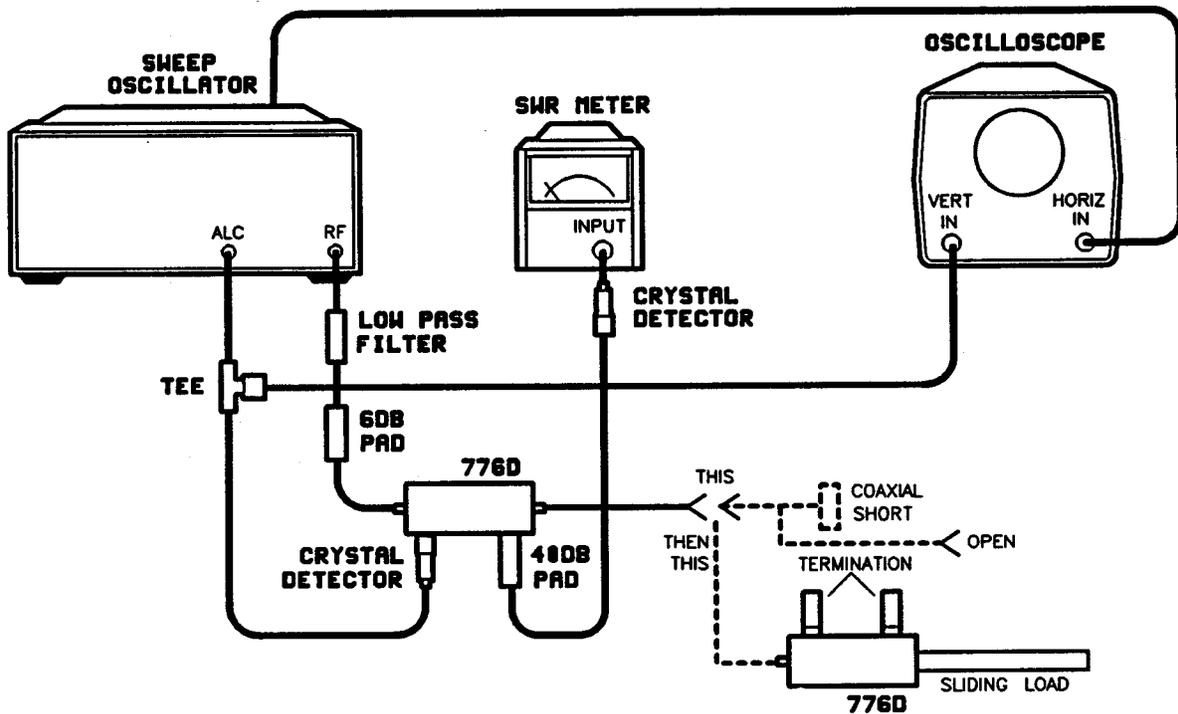

Figure 8 VSWR Test Setup
1. Connect the equipment as shown in Figure 8, with the 776D under test unterminated.